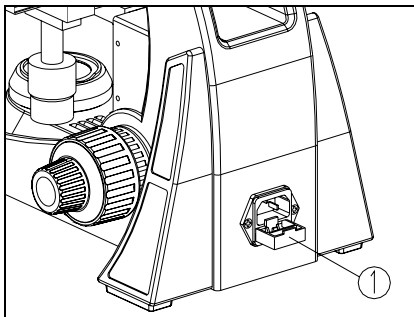

Fig.18
Turn the main switch to "O" (OFF) before replacing the fuse. Pull out the power cord. Pull the fuse base① until the fuse can be take out from the fuse base. Install a new fuse and push it in the fuse base thoroughly (See Fig. 18).